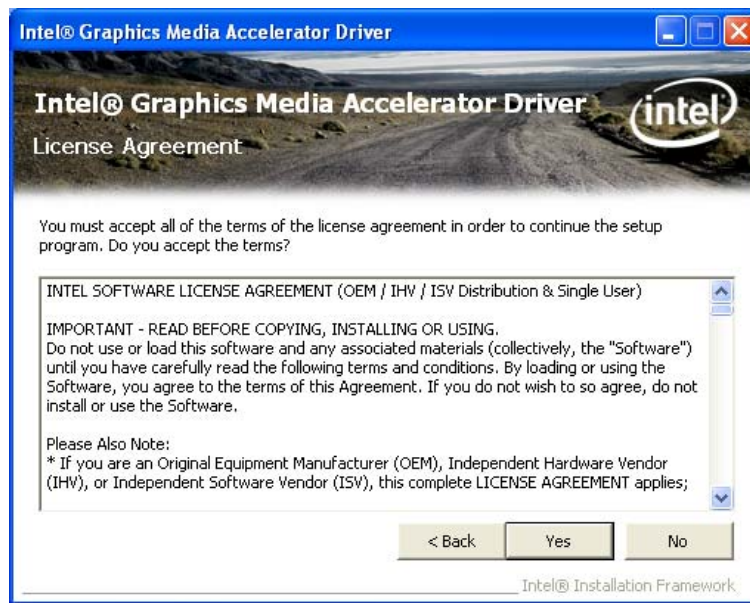

Figure 6-11: VGA Driver License Agreement
- Step 7:** The license agreement in **Figure 6-11** appears.